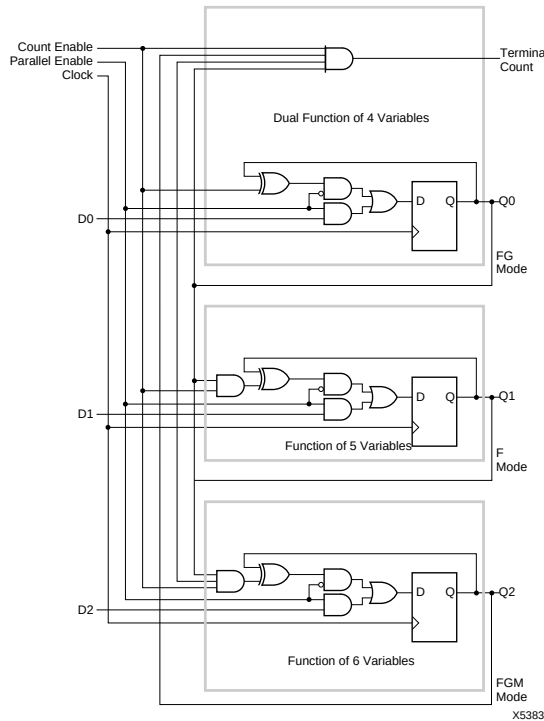

Figure 7: Counter.
The combinational-logic portion of the CLB uses a 32 by 1 look-up table to implement Boolean functions. Variables selected from the five logic inputs and two internal block flip-flops are used as table address inputs. The combinational propagation delay through the network is independent of the logic function generated and is spike free for single input variable changes. This technique can generate two independent logic functions of up to four variables each as shown in Figure 6a, or a single function of five variables as shown in Figure 6b, or some functions of seven variables as shown in Figure 6c. Figure 7 shows a modulo-8 binary counter with parallel enable. It uses one CLB of each type. The partial functions of six or seven variables are implemented using the input variable (E) to dynamically select between two functions of four different variables. For the two functions of four variables each, the independent results (F and G) may be used as data inputs to either flip-flop or either logic block output. For the single function of five variables and merged functions of six or seven variables, the F and G outputs are identical. Symmetry of the F and G functions and the flip-flops allows the interchange of CLB outputs to optimize routing efficiencies of the networks interconnecting the CLBs and IOBs.